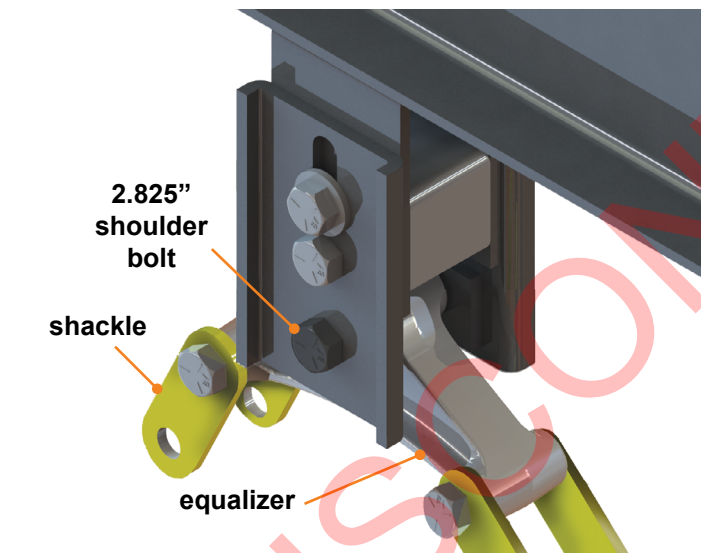
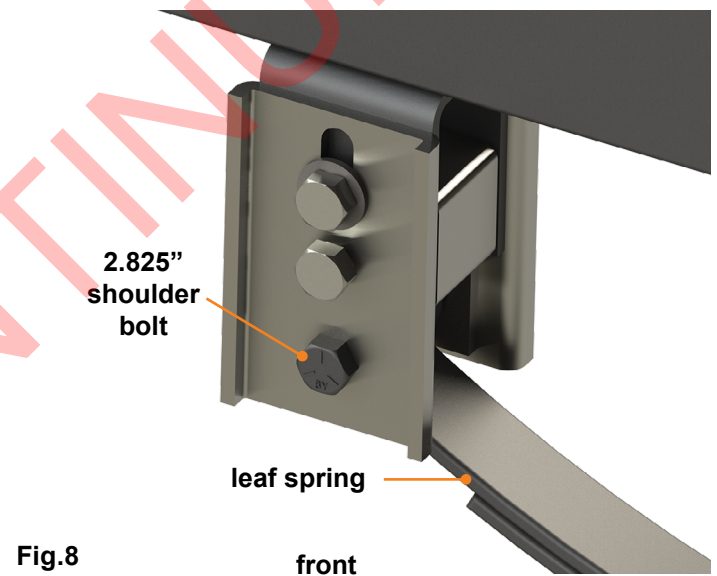
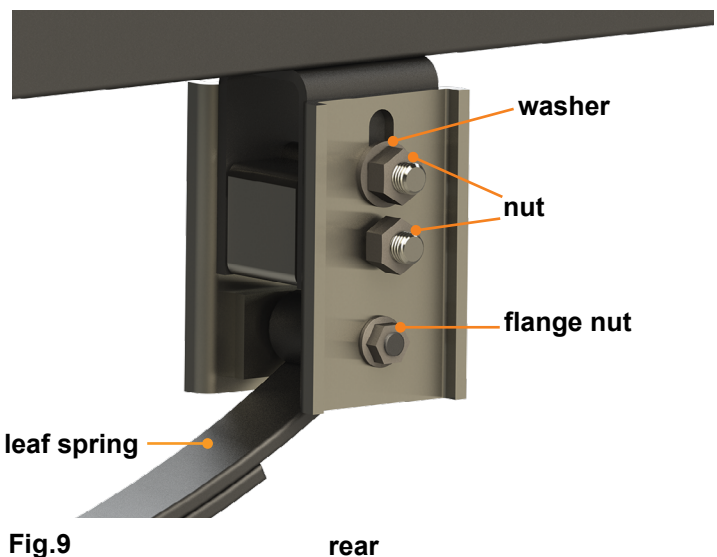

Fig.7
Fig.8
Fig.9
6. Bolt the equalizer assembly back into the new plate assembly using a 2.825" shoulder bolt (bolt length 3.375") and a flange nut to secure it (Fig.7).
8. Use floor jacks to raise the axle, bringing the eye of the leaf spring back into the hanger (Fig.8) and/or equalizer/shackle area (Fig.7).
9. Bolt the leaf spring assembly together using a 9/16" x 2.825" shoulder bolt (bolt length 3.375") and a flange nut (Fig.8 and Fig.9).